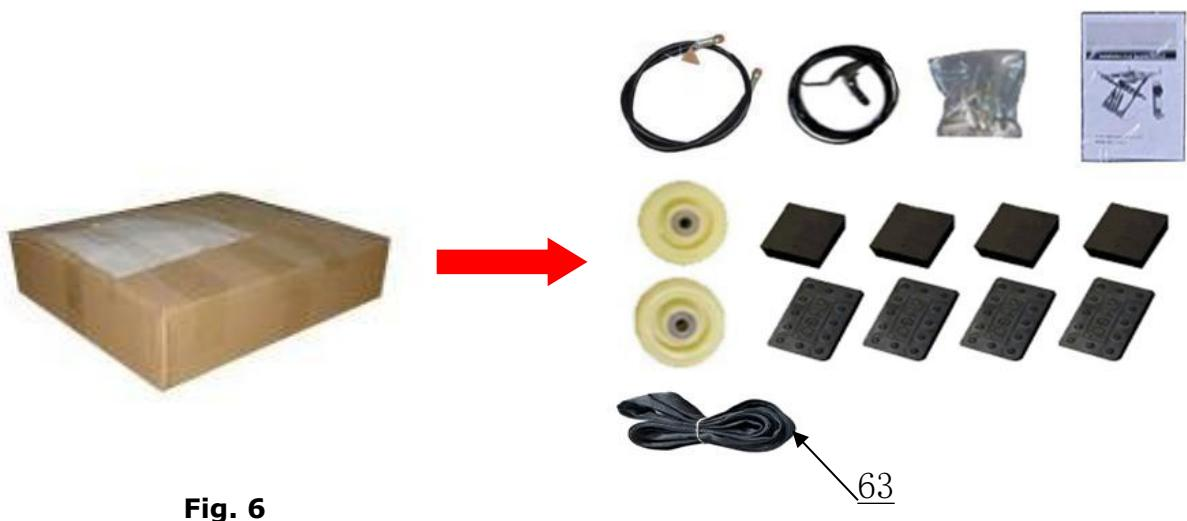

Fig. 6
2. Open the parts box, check the parts according to the part list (**See Fig. 6**).